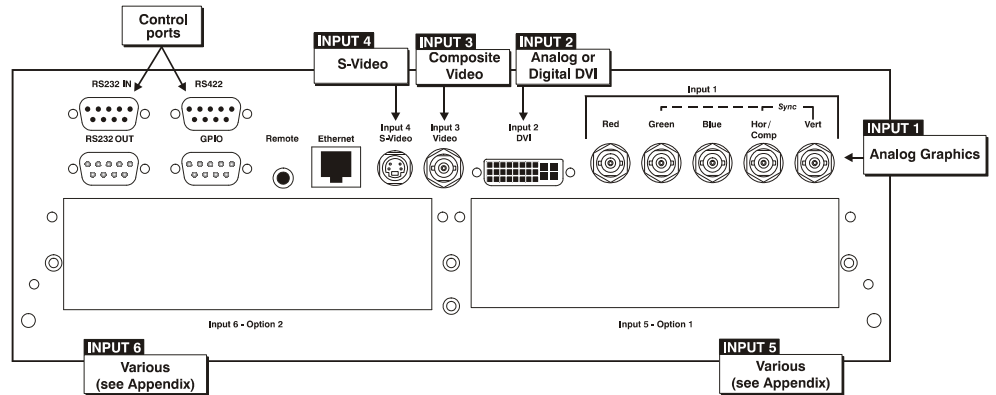

Figure 1.1
▶ There are two different types of Input face plates configurations (model dependant). Refer to **Figure 1.1 & 1.2**. These configurations may include the following inputs:
For simplicity, this manual refers to the configuration in **Figure 1.1** only.